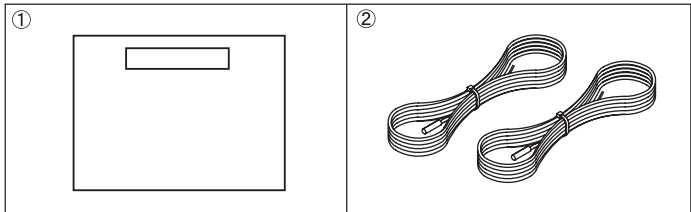

Fig. 2-1
2.1. Check the parts (Fig. 2-1)